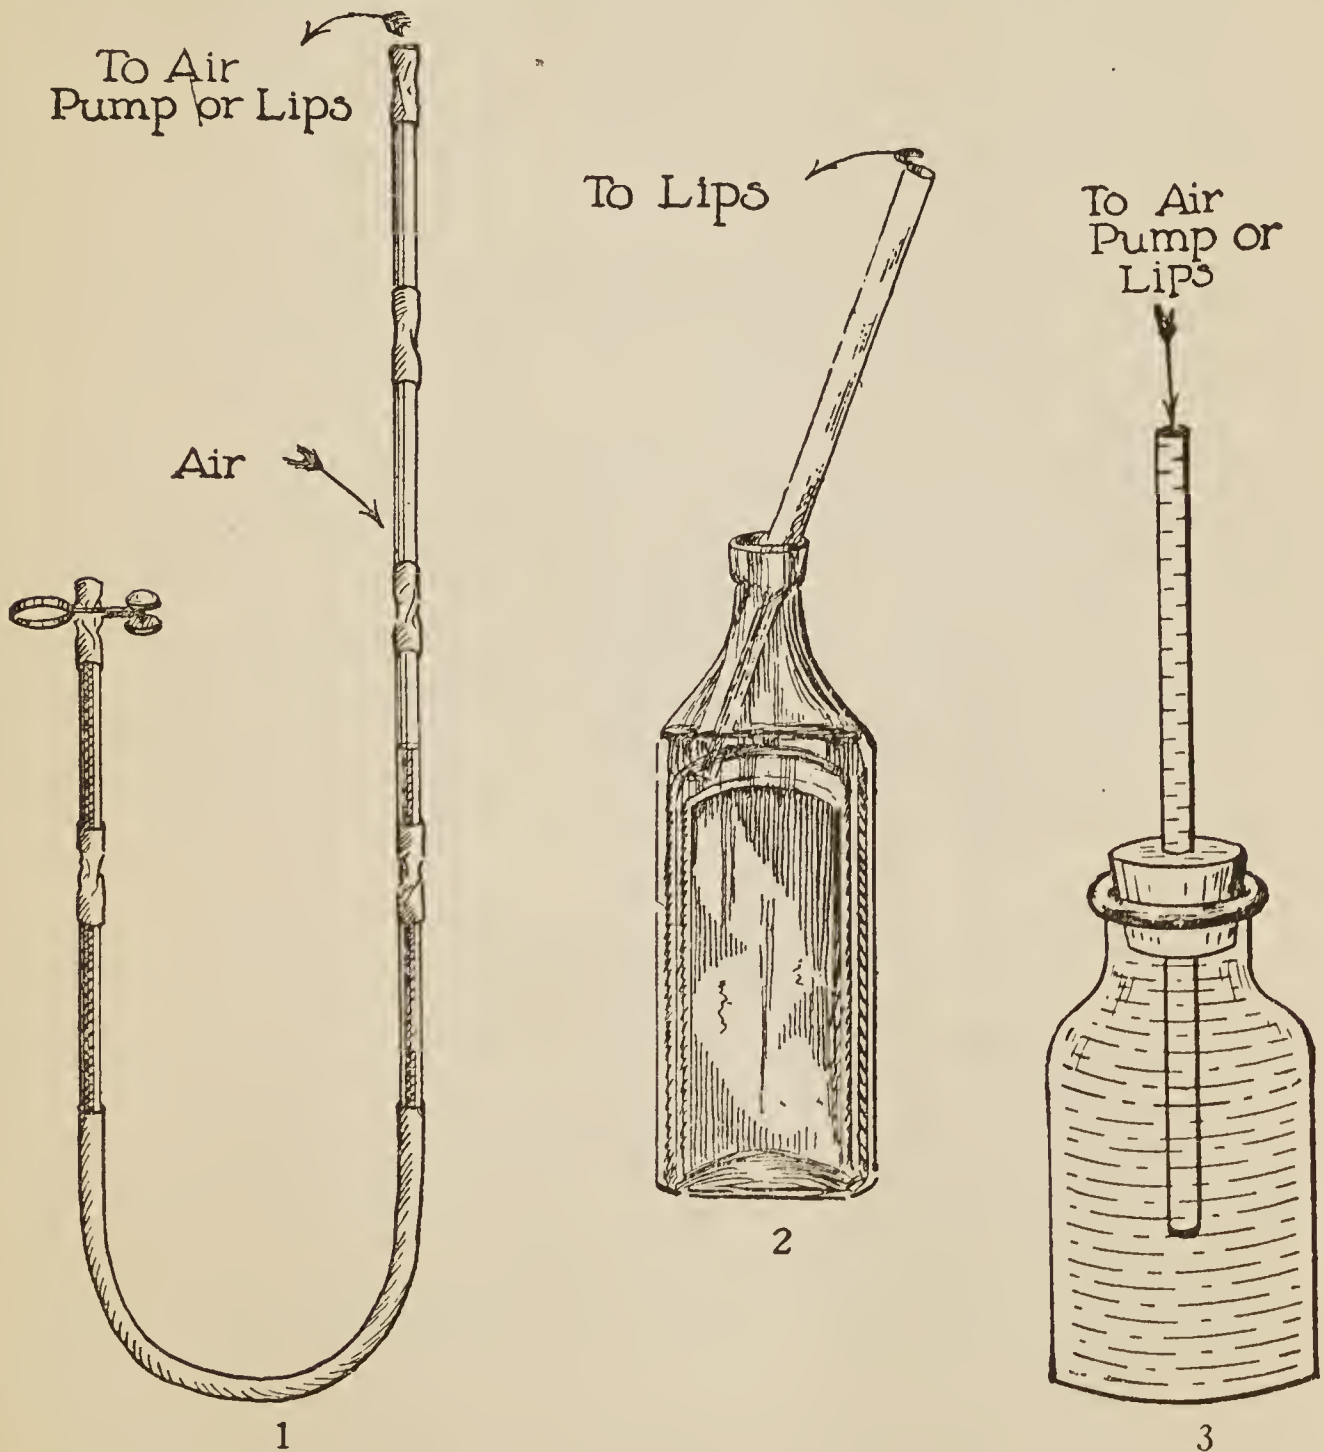

Fig. 54.—Proving That it is the Atmosphere Which Lifts the Water.
Make a U tube (1) Fig. 54, with four tubes on one side and two on the other, fill it half full of water so that the two tubes on the short side are quite full, then close the top of this side with a coupling and clip. Now suck the air out of the long side. Do you observe that the water does **not** move?